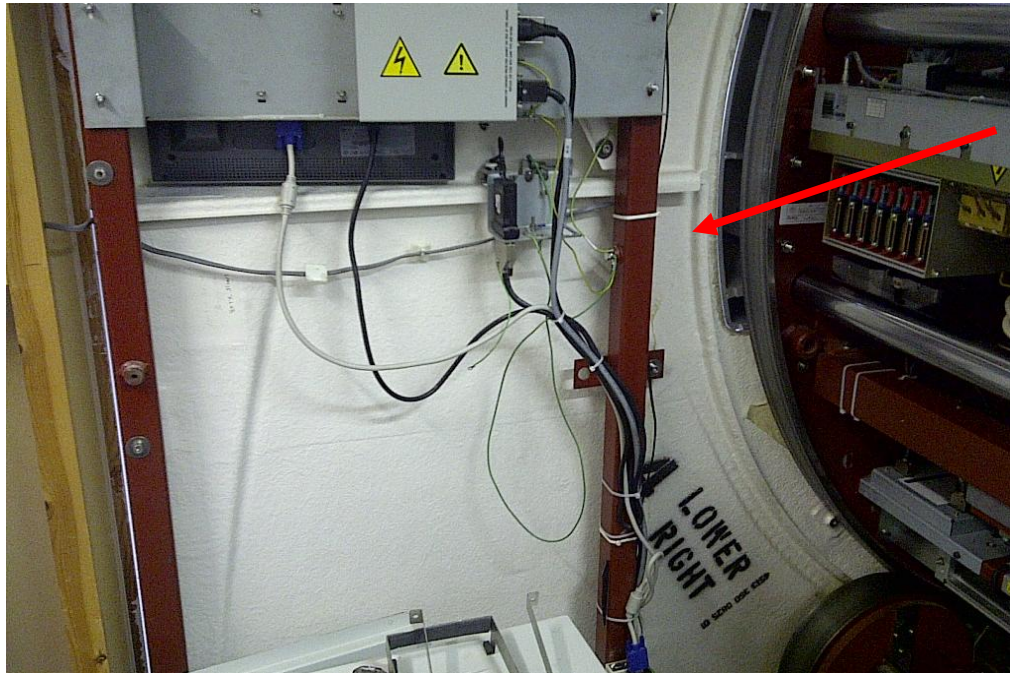

Figure 8: Cable tie to frame
14. After you pulled the fiber-optic cable through the cable ducts, put the end behind the fascia near the selected TRM. Install it to the frame with cable ties (see Figure 8). Be careful not to attach the cable tie too tightly.